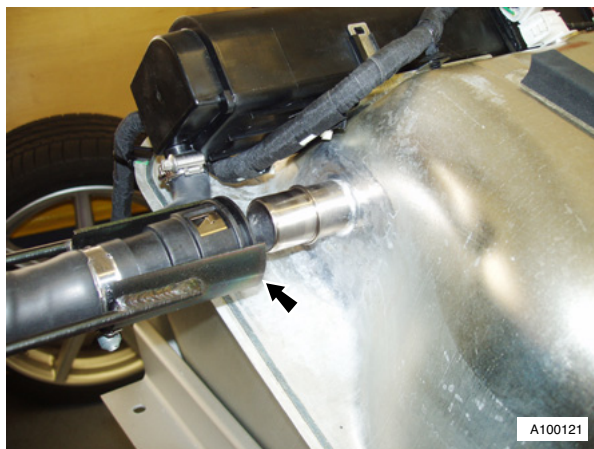

Fig. 2
7. Remove filler neck pipe and hose assembly from the tank (using filler neck disconnection tool - 310 - 134) (see Fig. 2).